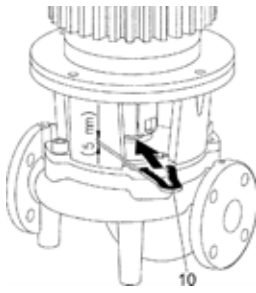

Fig. 18: Forked spacer for setting work
For all installation work, the forked spacer (Fig. 18, item 10) is a mandatory requirement for setting the correct impeller position in the pump housing!